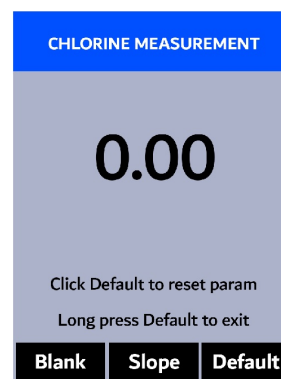

Figure 35.
8. Press **Cal** ( **>** ) to launch the **CHLORINE CALIBRATION** screen (Figure 35).